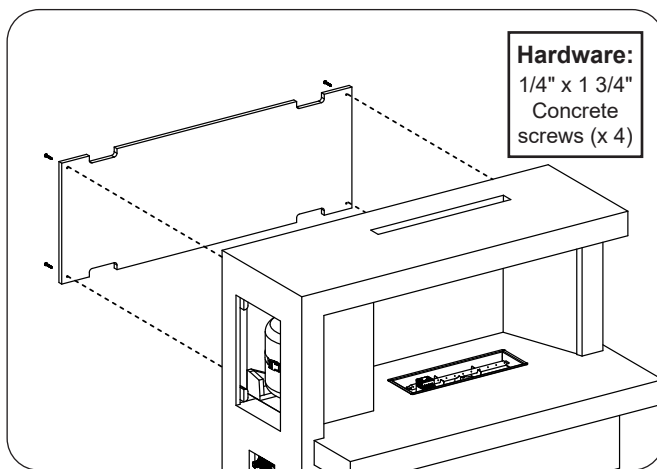

Fig. 26-2 Install outer rear-panel
2. Place the outer rear-panel in position against the rear of the fire box, then fasten using a Phillips screwdriver and the supplied concrete screws (see Fig. 26-2).